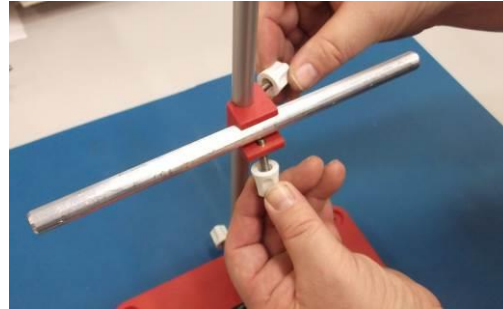

Figure 7. Install the Rod and Tighten the Thumbscrew
6. At the desired height, install the Rod/Clamp Assembly from Step 1 onto the vertical Rod (Figure 7).